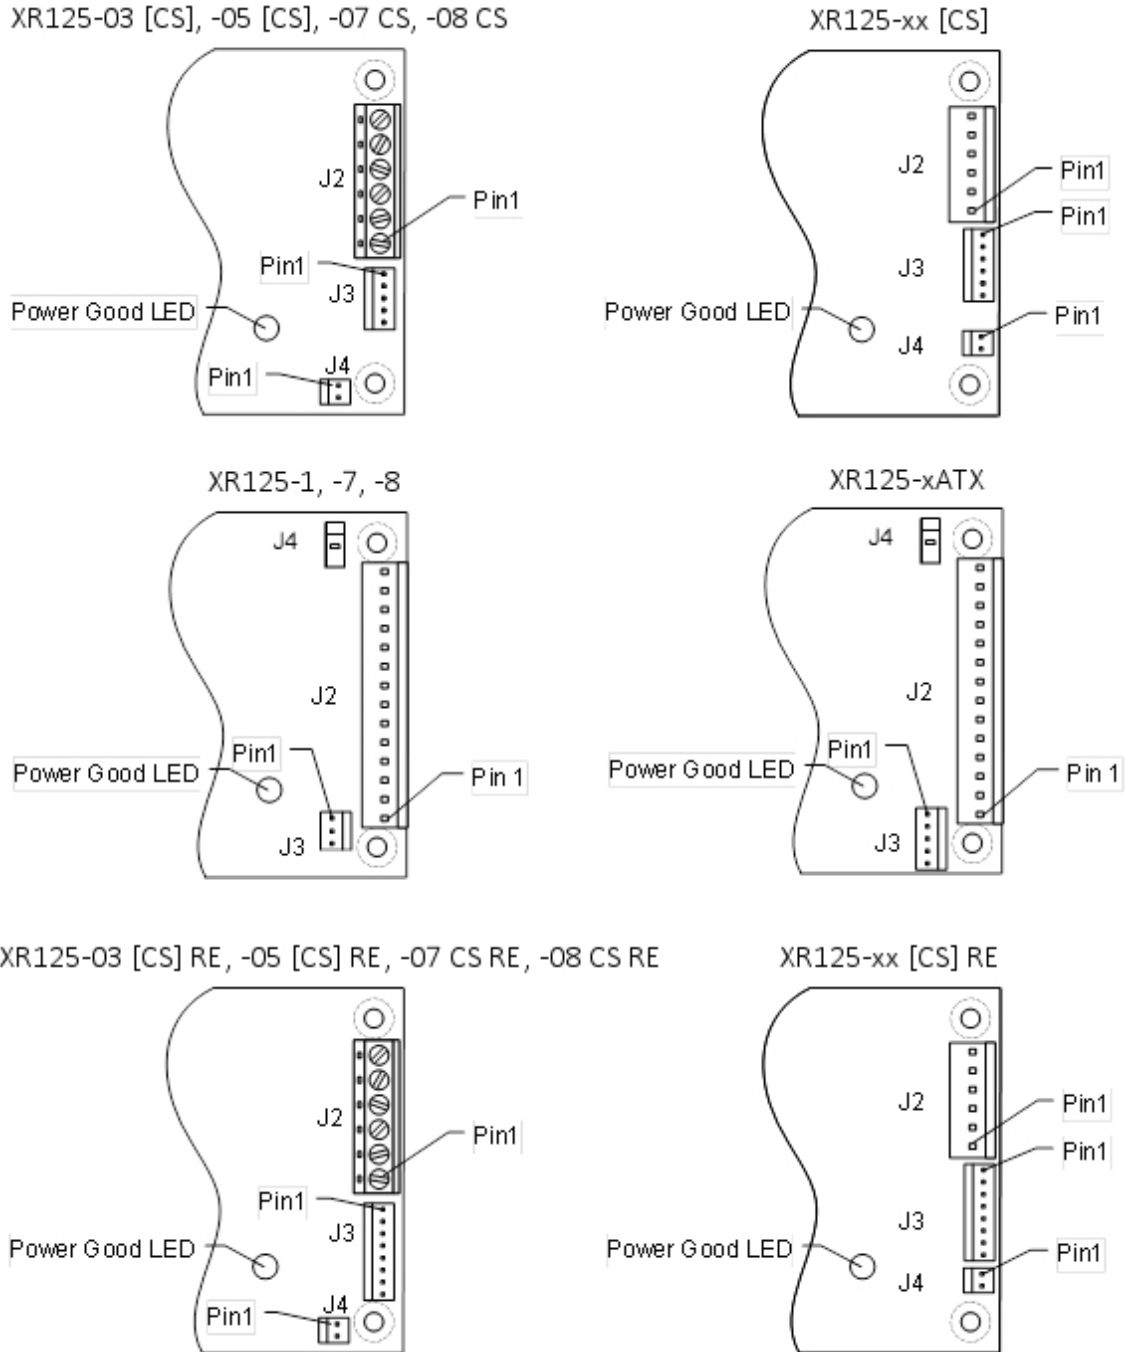

Figure 4-3 XR125 Output Connectors Layouts
- Refer to Figure 4-3 for connector and pin-1 locations
A green LED on all models illuminates whenever the Power-Good signal is true (high). See Figure 4-3 for the LED location near the output connector. At turn off, V2 is clamped via a diode to +5V output to insure 2.5 / 3.3V never exceed 5V output by 0.6V during turn-off.